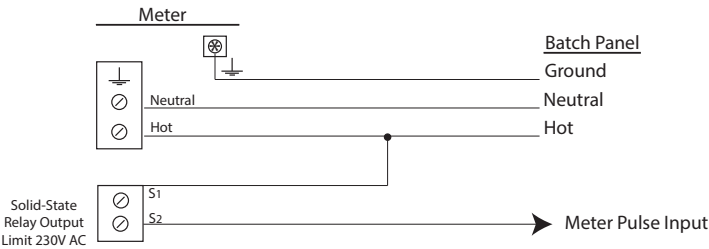

Figure 19: Batch panel power connections
- The connection shown in Figure 19 is for batch panels that require a 115V AC hot pulse for meter signals.